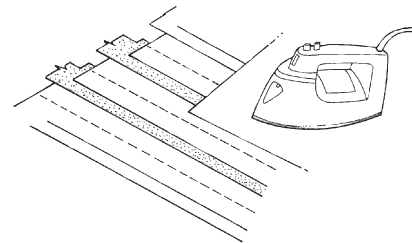

Fig. 6-3
4. Press the pleats carefully, using a press cloth. Place strips of paper under the fold lines to prevent press-mark ridges. (Fig. 6-3) For soft pleats, press lightly. For extra-sharp pleats, use a damp press cloth and allow the pleats to dry thoroughly before removing the garment from the ironing board. For a more permanent crease, you can have pleats pressed professionally.